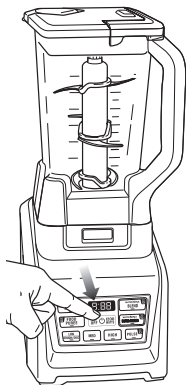

Fig. 7
- 11** Press the power button to turn on the unit. Select the speed or Auto-iQ program that best suits your needs. The Auto-iQ program will stop the appliance automatically at the end of the program. (Fig. 7)